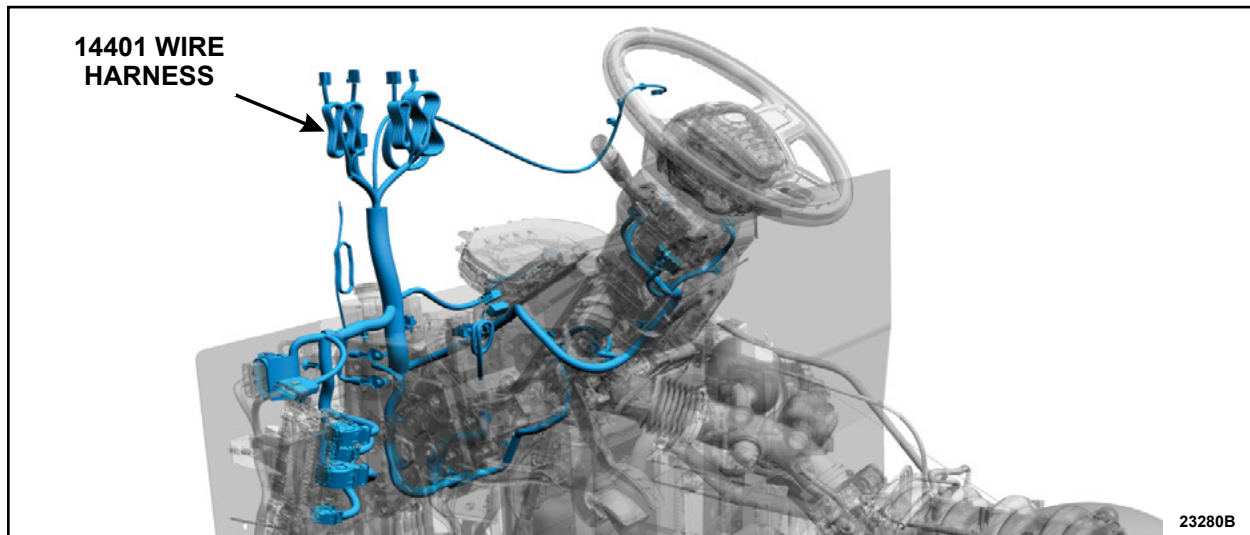

FIGURE 4
9. Remove the 14401 harness from the vehicle up to the A-Pillar. See Figure 4.